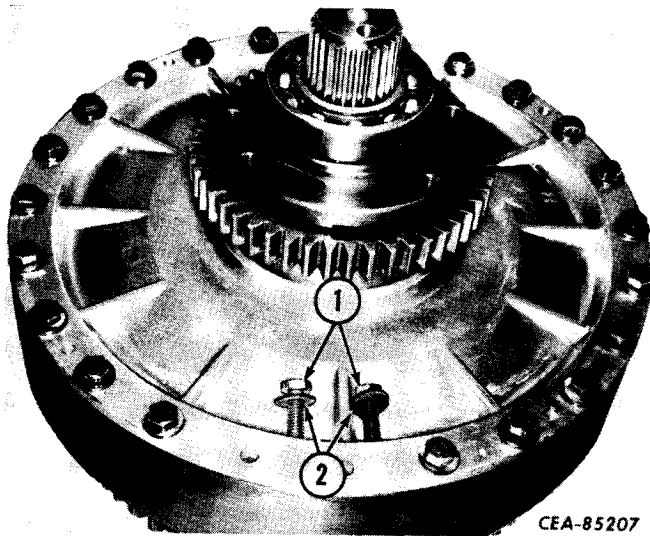

Figure 3-9
Remove the cap screws (1, Fig. 3-9) and special flat washers (2) that hold the impeller wheel to the rotating housing.